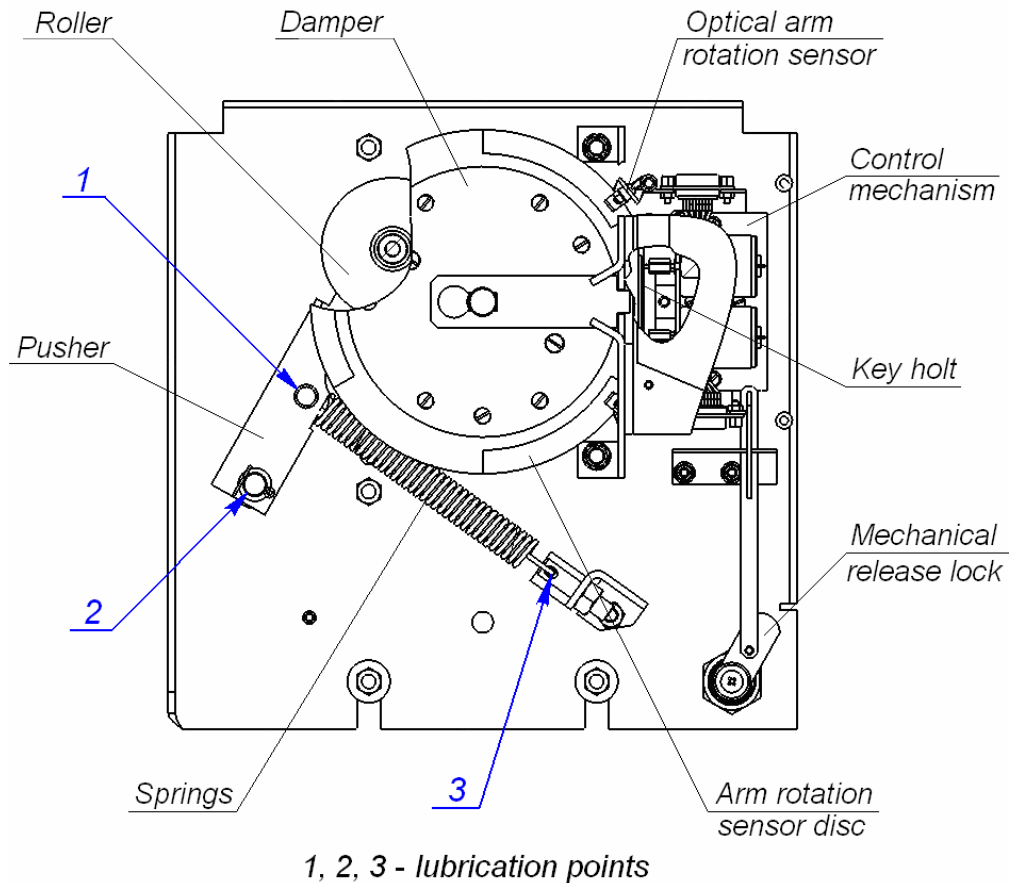

Figure 13. Location of the interior components of the turnstile housing (CLB is not shown)
1. Remove the cover (2) with LED indication display from the turnstile housing. The order is given in Chapter 6.
2. Check visually the resetting device (pusher, springs and roller), the arm rotation sensors and the damper (Fig. 13).
4. Lubricate the friction units of the resetting device with the machine oil. Avoid the ingress of lubricant on the arm rotation sensor disc and the roller surfaces. Lubricate the following points (Fig. 13):
- lock cylinder of the mechanical lock (15) through the keyhole.